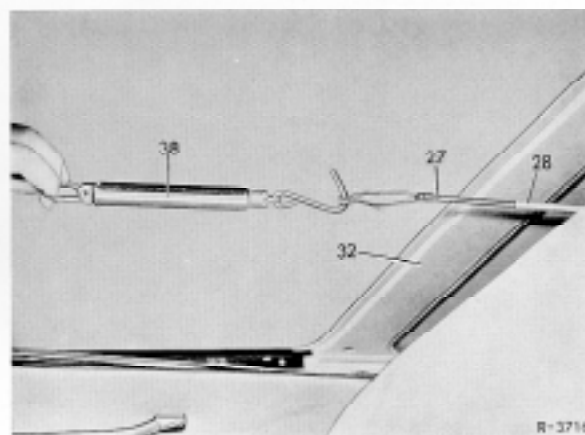

Fig. 3
**Note:** The teleflex cable control should slide in teleflex tube under a force of max. 3 kp. Check by means of spring scale (38) (Fig. 3).